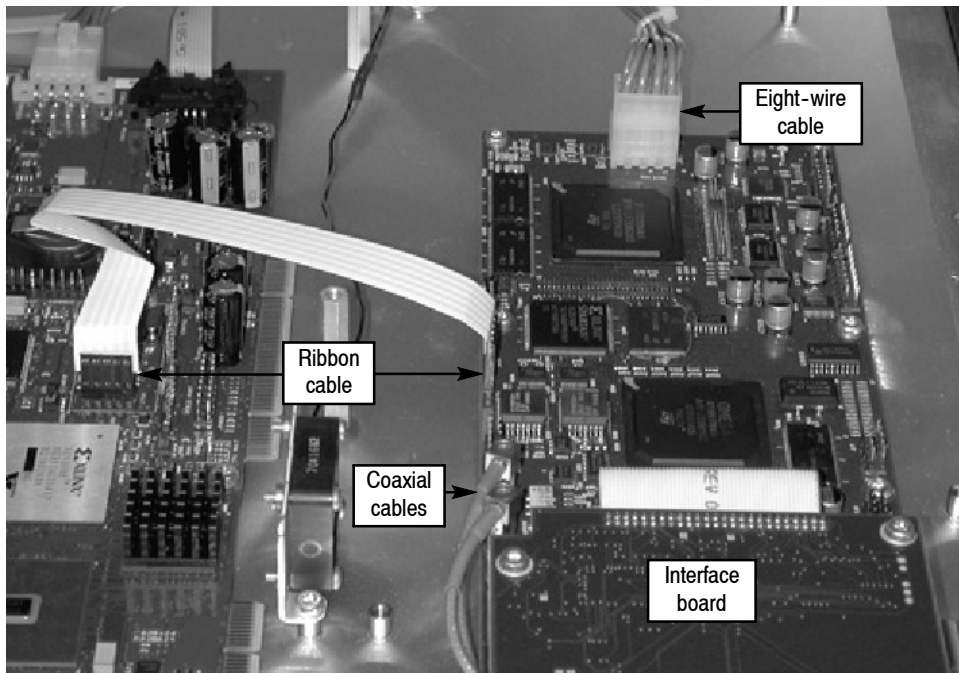

Figure 22: Cable connections for QAM (Annex B, new version), 8PSK, 8VSB, and COFDM interface boards
- Connect the ribbon cable from the connector labeled J14 on the interface board to the connector labeled J750 on the TS Processor board. See Figure 22 for cable locations.